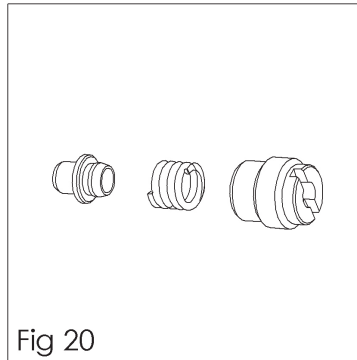

Fig 20
3. Discard old packing (34) and packing spring (35) if replacing. Clean packing if reusing. Also clean packing spring and nut (36). (See fig 20).